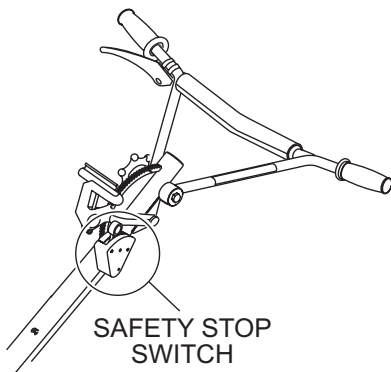

Figure 1. Safety Stop Switch
1. Locate Safety Stop Switch (Fig.1)